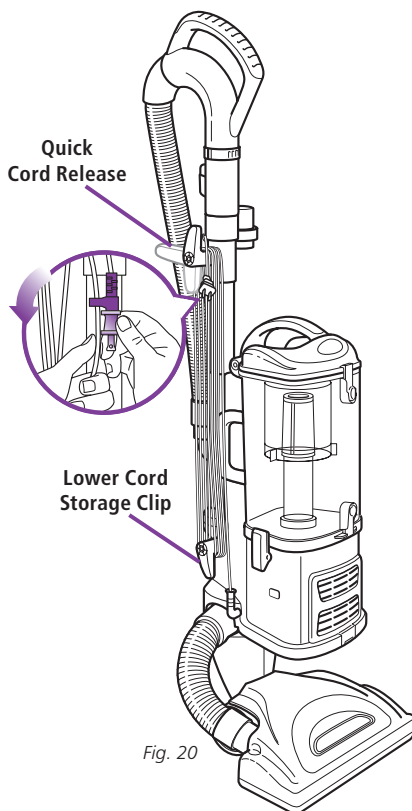

Fig. 20
- 2 Rotate the upper quick cord release to its upright position and coil the power cord loosely around the two clips. Clip the plug onto the cord to secure. (Fig. 20)